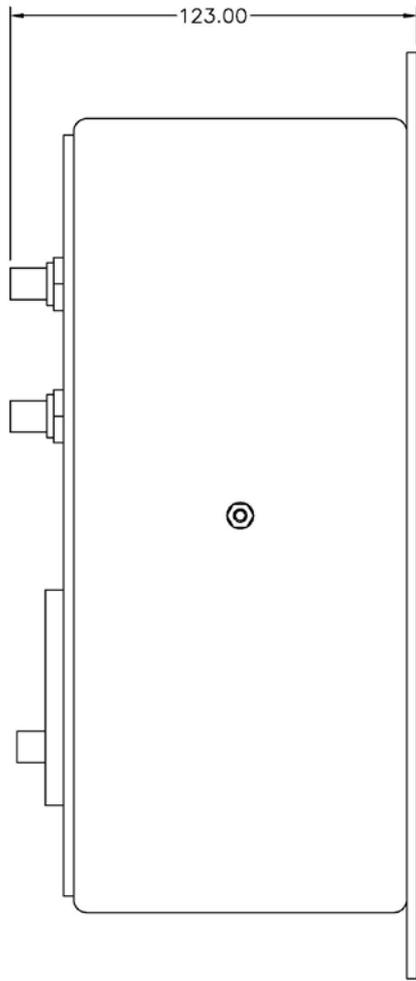

Fig.4 Suitable drive circuit for optic transmitter
6. The optical input pulse is via the 9 mm FSMA style connector - receiver type HFBR -2404. Transmitter type HFBR -1404 is used for driving and testing. To achieve the best performance, the rise time of the input pulse should be as short as possible; a suitable driver is shown in Fig. 4.